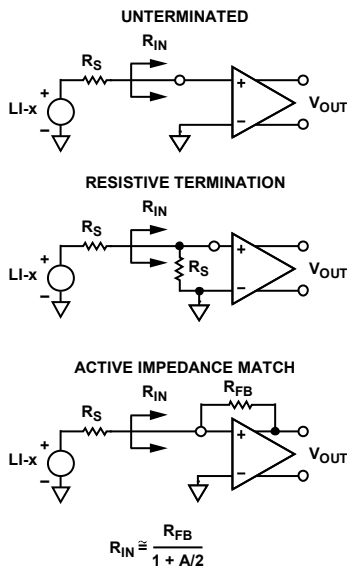

Figure 40. Input Configurations
The short-circuit noise voltage (input-referred noise) is an important limit on system performance. The short-circuit input-referred noise voltage for the LNA is $0.85 \text{ nV}/\sqrt{\text{Hz}}$ at a gain of 21.3 dB, including the VGA noise at a VGA postamp gain of 27 dB. These measurements, which were taken without a feedback resistor, provide the basis for calculating the input noise and noise figure (NF) performance of the configurations shown in Figure 40.